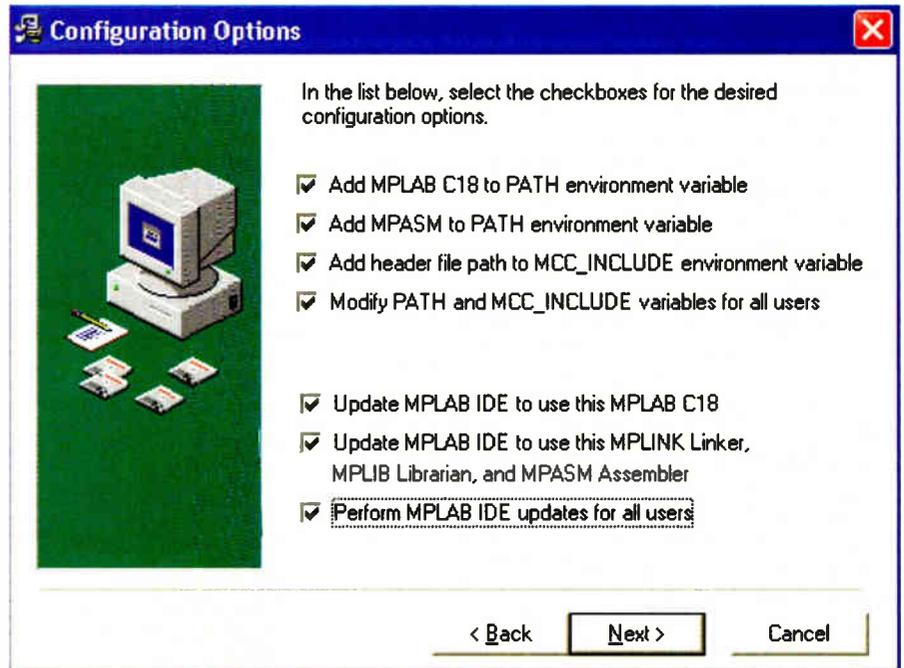

Fig.2. Configuration options for the Microchip C Compiler
This problem is fairly easy to spot. Apart from the fact that the affected components will not be flush with the board, things will not look right on the copper side of the board either. The soldered joints will be noticeably flatter than normal, with no hint of any leadout wires. This can be seen in the middle joint of Fig.2. The fact that the joint is offset to one side also suggests that all is not well.
*Fig.2. The middle joint in the front row is typical of one where the leadout wire has been cut too short, or is otherwise not protruding far enough through the board. The joint in the background on the left looks suspiciously like a 'dry' joint.*
loaded earlier. Agree to the license, and accept all other defaults except at the **Installation** options screen (see Fig.2). Enable all the options as shown. Click **Next** and continue accepting the defaults to complete the installation. When it finishes, you can delete the temporary directory you created earlier. We recommend keeping the original downloaded installation files in case you need to reinstall them at a later date.